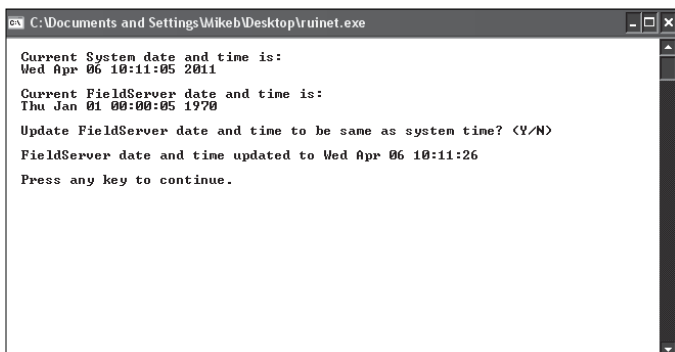

Figure 11: FieldServer Date and Time Updated
3.) Type <Y> to sync the Date/Time on your PC. The following screen will appear (**Figure 11**). Press any key to continue.